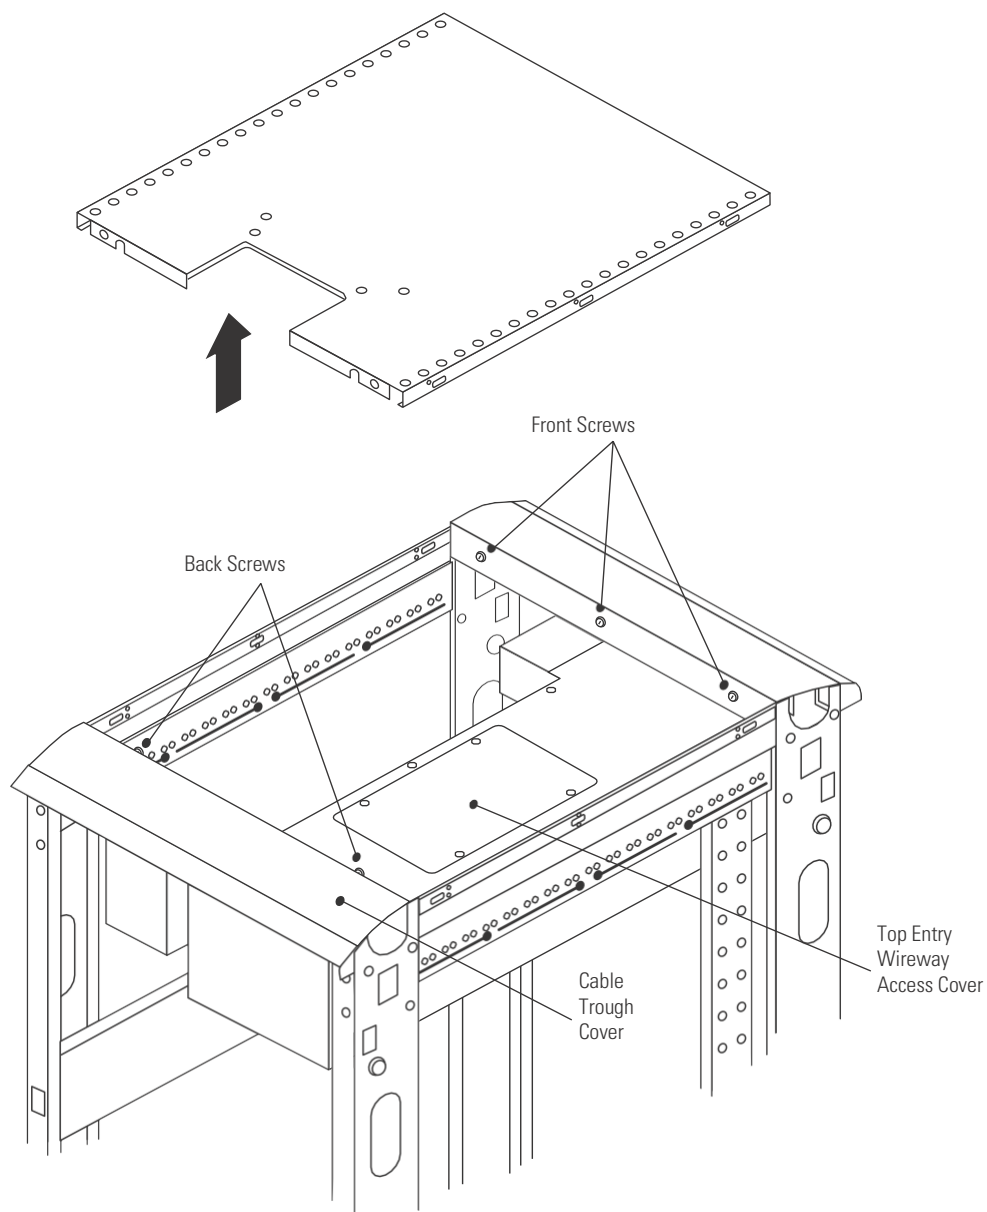

Figure 16. Removing the Top Panel
5. With the back doors open, reach up inside the rack and push up the cabinet top panel to lift it off of the loosened bolts. Retain the panel (see Figure 16).